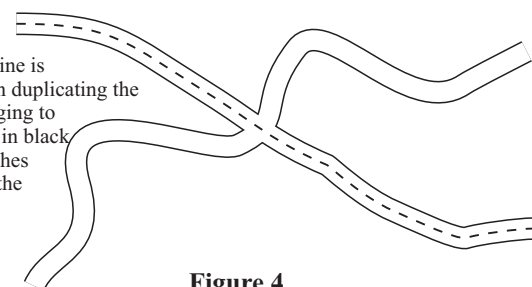

Figure 4.
5. Figure 4 shows a dashed line along the centre. This was created by simply again duplicating the original curve as described in step 2 and applying a dashed line style at a pen width of 0.5mm. The new duplicate is then brought to the front.